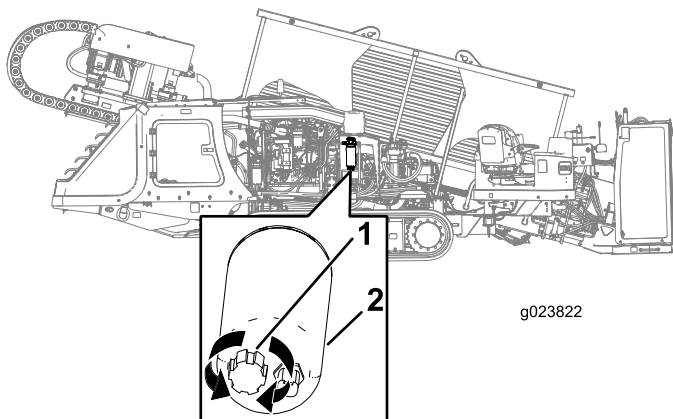

Figure 126
3. Align a drain pan under the primary fuel filter (Figure 126).
4. Rotate the drain valve at the bottom of the primary fuel filter 2 or 3 turns counterclockwise, and drain any water and sediment from the fuel filter (Figure 126).